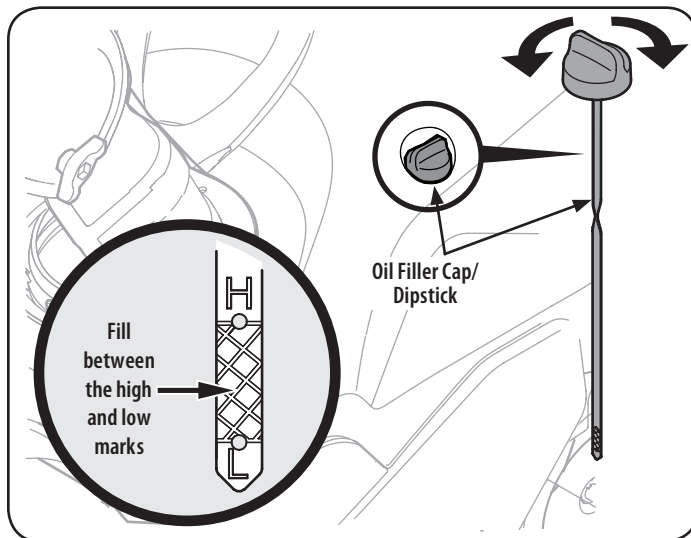

Figure 11
2. On some models the oil filler cap/dipstick can be accessed on the left side of the shroud. See Figure 11.